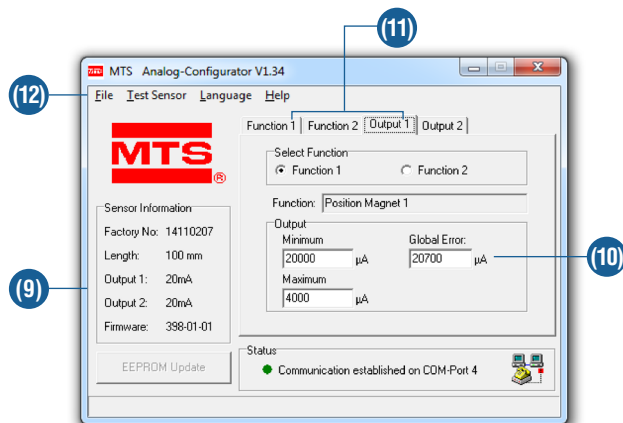
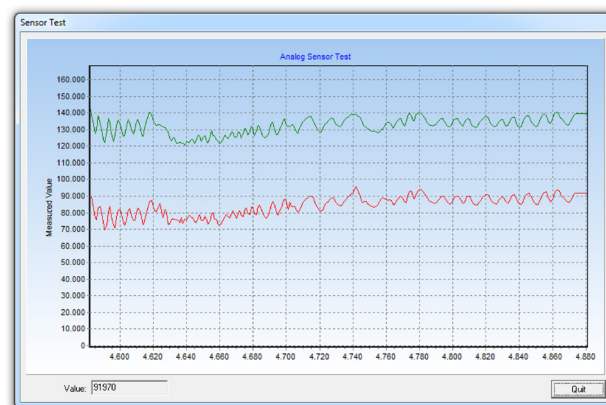

Fig. 29: Example of tab controls
Fig. 30: Diagram Test Sensor of analog sensor with 2 position magnets
- (9) Thereby, field **Output Minimum** indicates the current or voltage value which should be output at the starting point of the selected function. The output value pertaining to the end point must be specified in field **Output Maximum** (fig. 29).
- (10) Unless a position magnet is provided, or if it is in the sensor inactive zone, i.e. out of measuring range, **Global Error** is output. The error value can be adjusted with  $-0.7 \dots 20.7 \text{ mA}$  or  $-0.4 \dots 10.4 \text{ V}$
- (11) Index cards **Function 2**, **Output 2** and the functional reference to the 2nd magnet in field **Source**, are provided only for sensors with two analog outputs.
- (12) Menu **Sensor test** provides a data display (fig. 30), which show the absolute positions of the position magnets. Compared with the sensor measuring rate, serial data transmission between sensor and PC is relatively slow, i.e. not every actually measured value can be displayed. For this reason, only every 50th measurement value appears in the diagram.